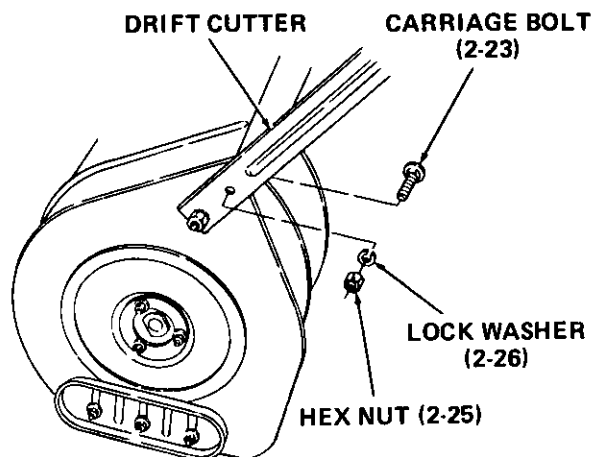

Figure 39
13. Position drift cutters on snow thrower housing as follows. Refer to Figure 39.
- b. Turn and place the drift cutters in position as shown in Figure 39. Secure with hardware removed in step 13a, carriage bolts (2-23) (heads of carriage bolts to inside of housing), lock washers (2-26) and hex nuts (2-25).